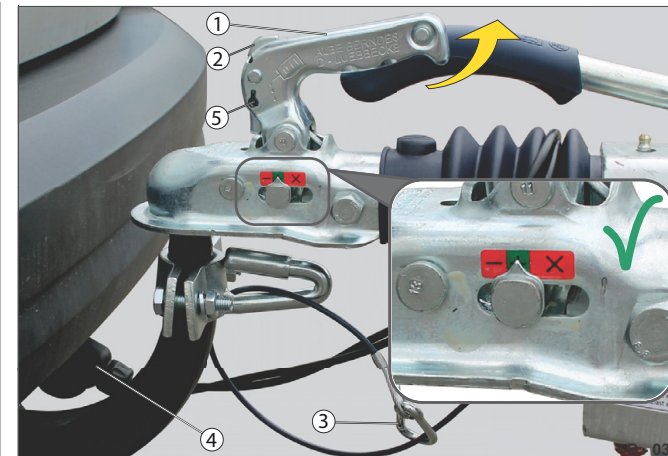

Fig. 10 Example: coupled braked trailer
To check, pull the handle upwards (Fig. 10 /1) - without actuating the safety catch (Fig. 10 /2).
- Attach the arrester/ safety cable (Fig. 10 /3) to the device or respectively to an eye on the car's towbar. - see "Securing trailer (unbraked)" on page 71 or see "Securing trailer (braked)" on page 72.